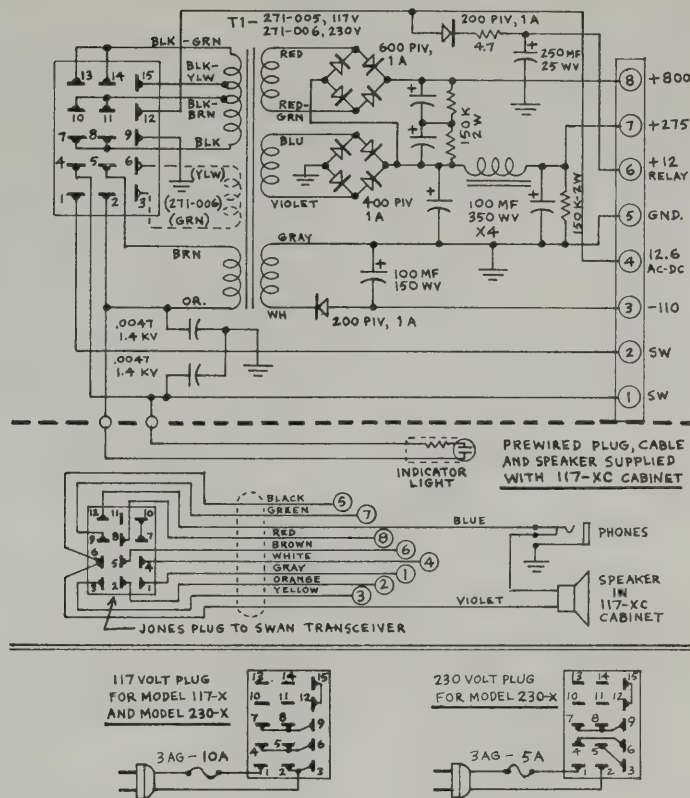

FIG. 9 MODEL 117-X (230-X) POWER SUPPLY
- (A) Detach the D.C. Module, and plug in an A.C. line cord in place of it. Before applying power, disconnect the brown cable wire going to terminal (1) of the A.C. supply and connect a jumper from terminal (1) to (2). Temporarily tape the brown wire to keep it from shorting to ground, since it will be carrying 12 volts D.C. Now the power supply will operate when the A.C. line is plugged in, although the transceiver filaments will still be operating on the battery. This arrangement will be useful primarily for checking out the A.C. portion of the supply when trouble shooting.
- (B) To operate the transceiver entirely on the A.C. line, it will be necessary to do the following: Disconnect the 5 wire cable going from the the transceiver to the A.C. portion of the supply. Replace it temporarily with a 10 wire cable and hook-up as illustrated in the schematic diagram Fig. 9. This is the same cable and speaker hook-up used in the matching cabinet, 117-XC. Using the D.C. supply in this manner will prove useful for portable or